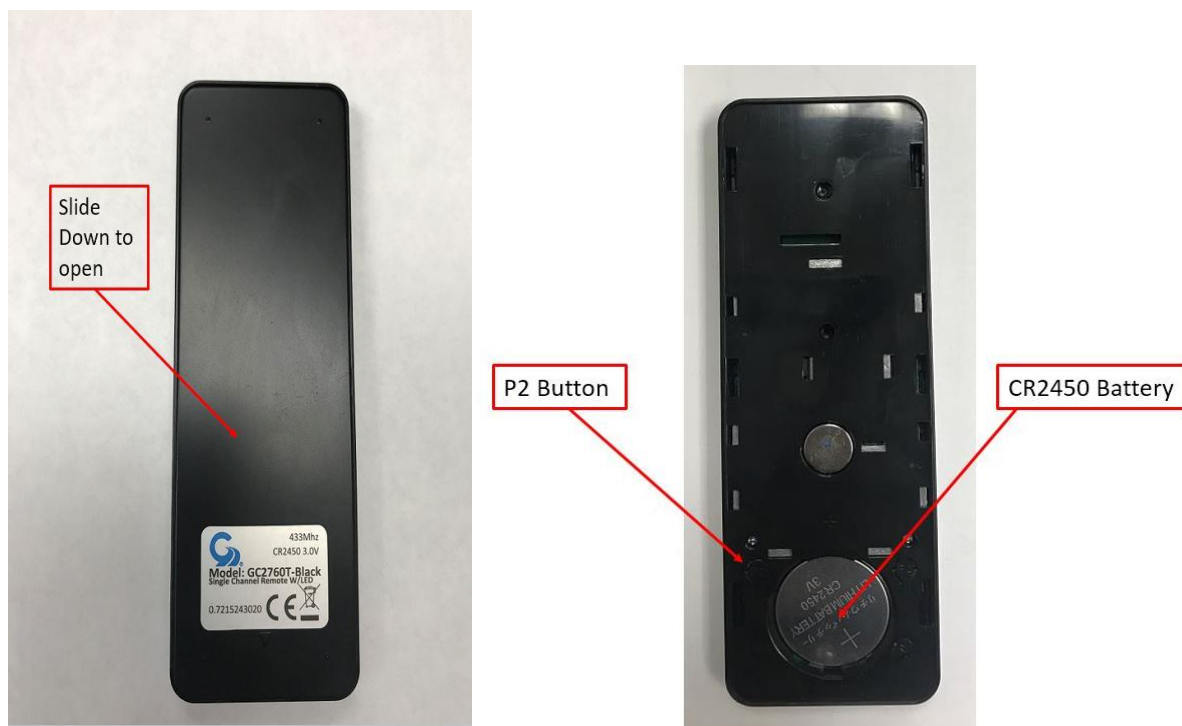

Fig.5
- The Battery compartment, (into which a single CR2450 3v Lithium battery should be inserted as shown, Fig.5)